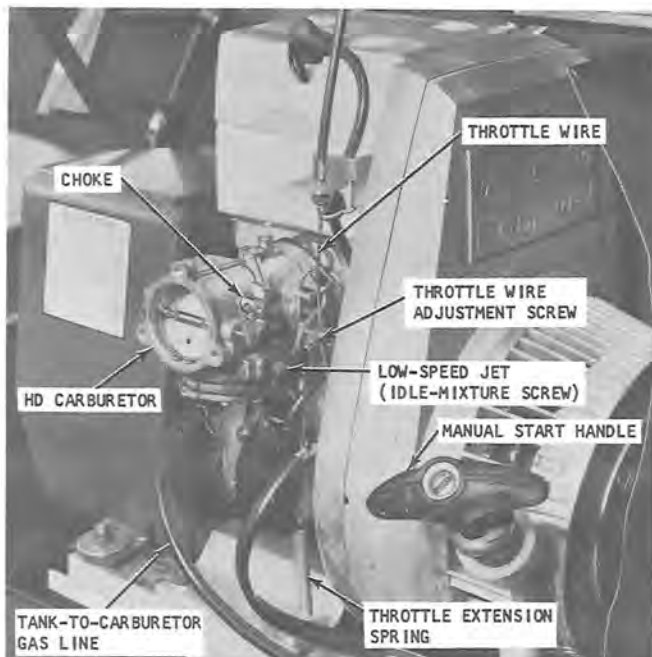

Figure 8
- Release the throttle extension spring and hook at the carburetor throttle control lever on the Mark XX 295 only (see figure 8).
Figure 8 shows the throttle-wire adjustment screw used on all Mark VI and Mark XX 295 series sleds. If the throttle plate fails to open completely when the throttle control lever is depressed, loosen the throttle-wire adjustment screw and readjust the wire as required to fully open the throttle.